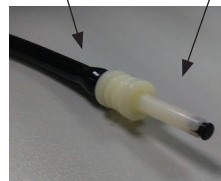

Figure 2.13
3. Air Path Connection: Take a piece of air tube (0.5~1m long,  $\Phi$ 8.0mm/ $\Phi$ 4.0mm diameter). Attach the NIBP connector with a connector plug on to one end of the air tube. Connect the other end to the 3-way connector. Connect the other 2 ends of the 3-way connector to a Mercury Sphygmomanometer as shown in Figure 2.13.